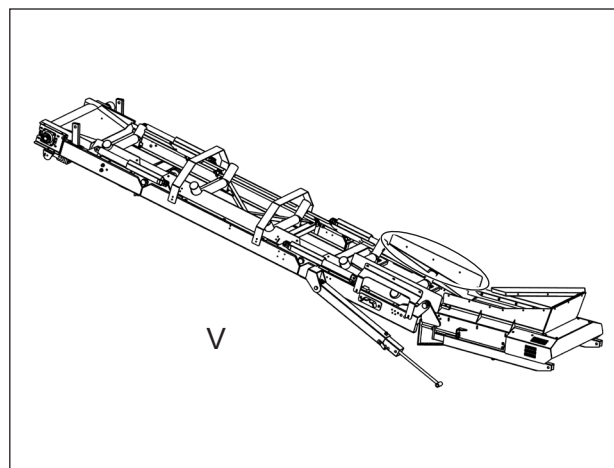

Figure 6.5 - Lower Section of Conveyor
10. Fix side conveyor skirting to lower section of conveyor (V), Ref: Figure 6.5.